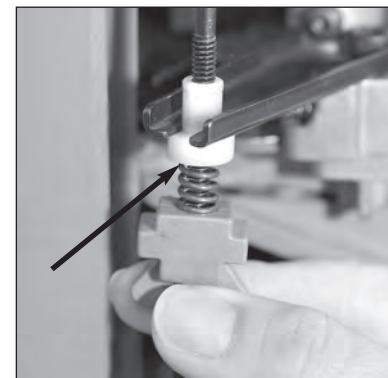

FIG 51
4. Slide the failsafe rod into the failsafe return bracket. Push the shoulder washer up into place (**arrow FIG 51**) and tighten the blue plastic wing nut until the end of the threaded rod is even with the wings of the wing nut. Now, push forward on the handle as if seating a primer, and tighten the blue wing nut until the spring is partially compressed.